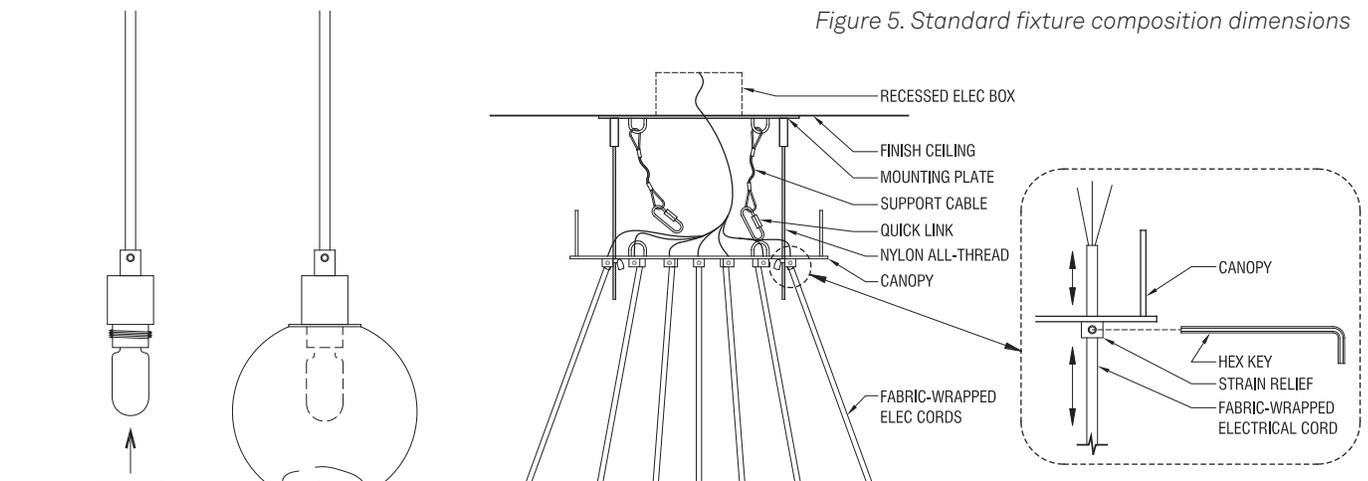

Figure 6. Leveling the fixture
- 7 Determine the length of exposed cord required above each ring in order to achieve the desired overall drop length. Then, leaving enough extra length to make the electrical connections in the canopy, trim any excess length of electrical cord - when trimming the fabric-wrapped electrical cords make sure to use electrical tape or other means to secure the fabric at the location of the cut, and then at the cut end to avoid fraying or slack in the fabric. Carefully pass each cord through its corresponding strain relief on the canopy and gently tighten each strain relief enough to support the fixture. Adjust strain reliefs as necessary to level the rings (Figure 6).